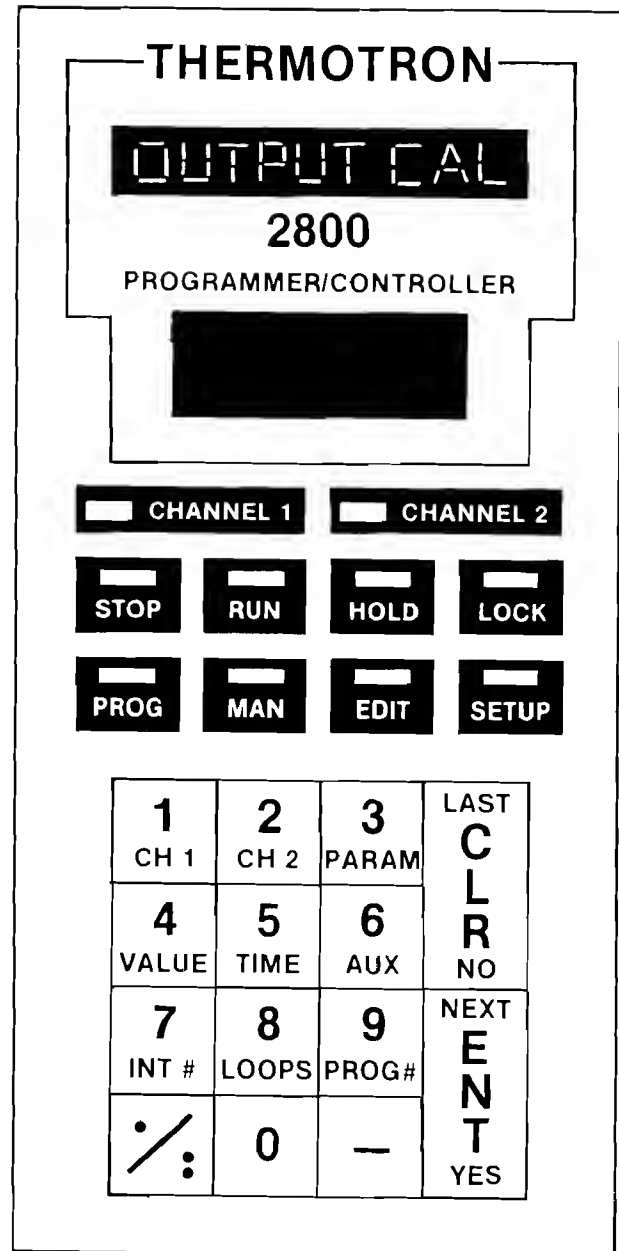

FIGURE 19
1. Calibrate the 2800. See Pages 22 and 23. After the **CLR** key is pressed in Step 4 or after completion of Step 10, the alpha display shows OUTPUT CAL. See Figure 19.